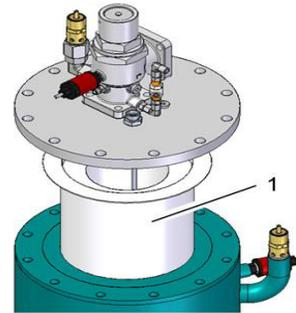

Fig. 32: Unfastening the air/oil separator
7. Screw in the new air/oil separator (Fig. 32/1) up to the stop.
8. Tighten the new air/oil separator (Fig. 32/1) half a turn by hand.